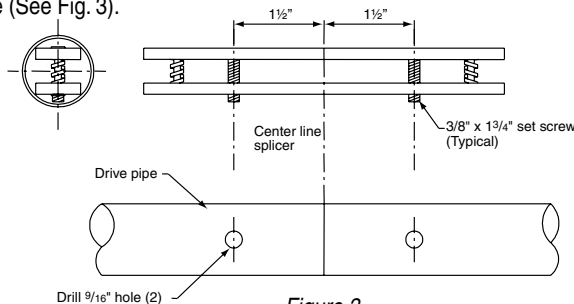

Figure 3
- ⑤ Raise drive pipe section that passes through the winch. Allow to rest on motor and drive pipe support assemblies.
- ⑥ Raise other drive pipe sections. Once the drive pipe is resting in the drive pipe support assemblies, slide the proper number of cable guide sleeves onto the pipe.
- ⑦ Attach pipes together with drive pipe splicers to obtain one long continuous run of drive (See Fig. 3).